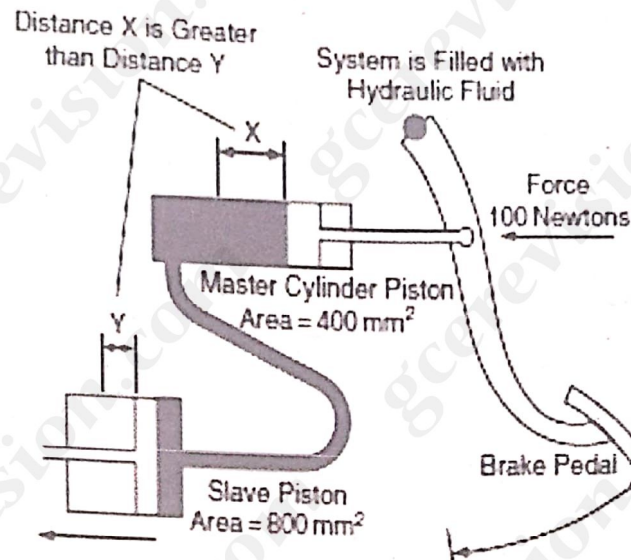

Figure 7
- Figure 7 above shows the basic structure of a hydraulically operated clutch mechanism. If the driver applies a force of 100 N on the master cylinder piston during clutching, what will be the;